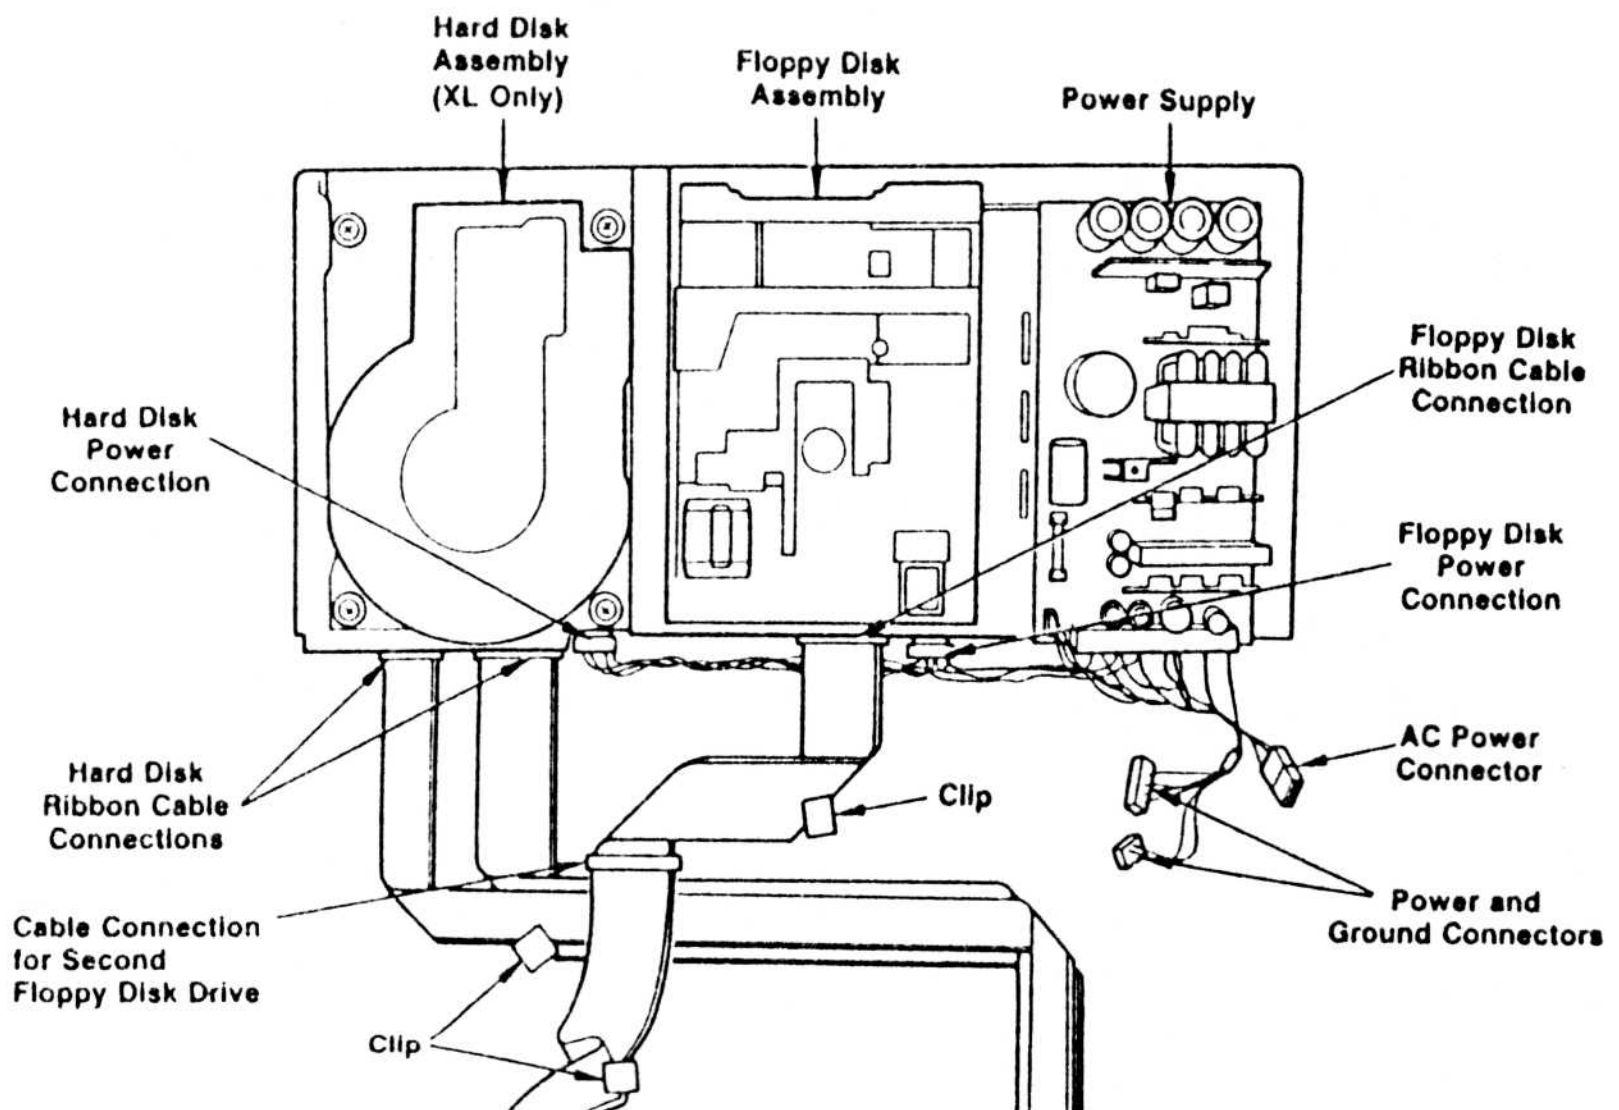

FIGURE 7: DISK DRIVE ASSEMBLY CONNECTIONS
STEP 10 Disconnect the ribbon cables from the disk drives (one from floppy disk drives, two from hard disk drives.) Figure 7 shows the ribbon cable connections to a hard disk and floppy disk drive (connections to dual floppy disk drives are identical to the connection to the floppy disk drive depicted.)
- STEP 15** Connect the ribbon cables to the disk drives on the bottom panel. Make sure the red edge on the cables are on the side closest to the power supply. Refer to Figure 7.